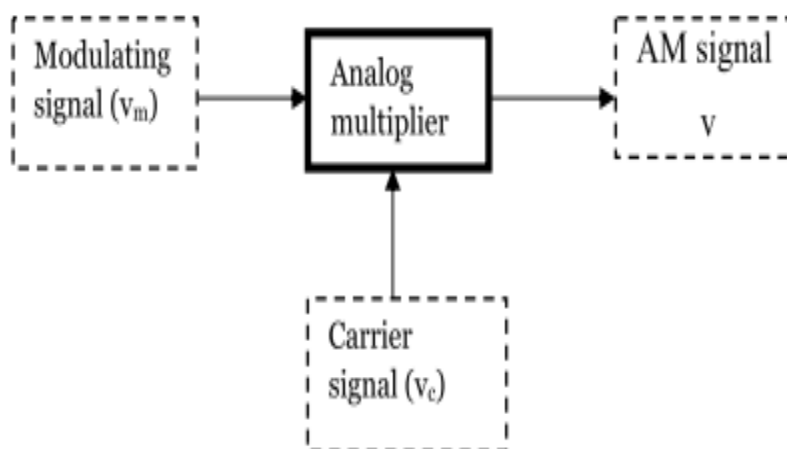

Fig 6.1: Block Diagram representation of generation of AM signal
3. Connect blocks according to fig 6.1